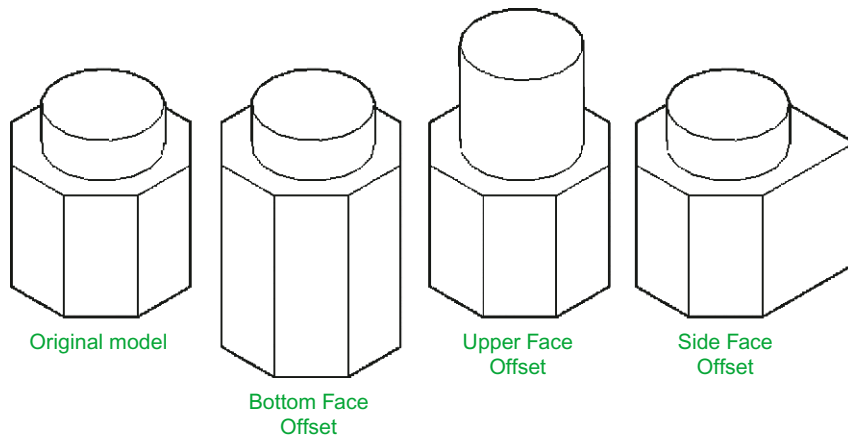

Fig. 18.7 Fourth example – Offset faces tool
Fourth example – Offset faces (Fig. 18.7)
1. Construct the 3D solid drawing shown in the left-hand drawing of Fig. 18.7 from a hexagonal extrusion and a cylinder which have been united using the **Union** tool.